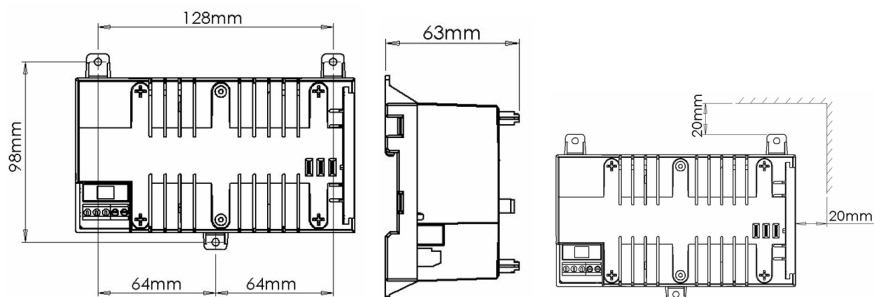

Fig 1.0 Mounting of Module
- 1) Mount securely in correct orientation allowing minimum clearance – see Fig. 1.0